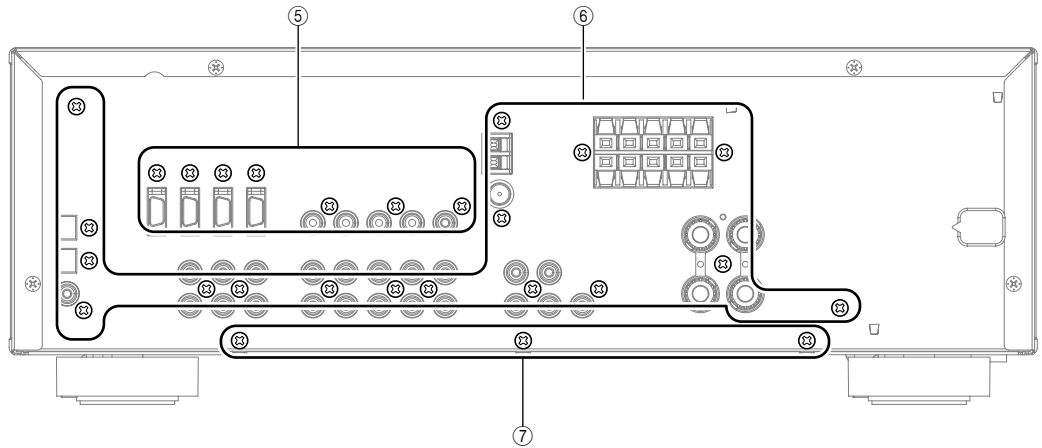

Fig. 3
- b. Remove 7 screws (⑤). (Fig. 3)
- b. ⑤のネジ7本を外します。(Fig. 3)
- a. Remove 17 screws (⑥), 3 screws (⑦) and 2 screws (⑧) (R, L models). (Fig. 3)
- a. ⑥のネジ17本、⑦のネジ3本を外します。(Fig. 3)
- b. Remove 3 screws (⑦). (Fig. 3)
- b. ⑦のネジ3本を外します。(Fig. 3)